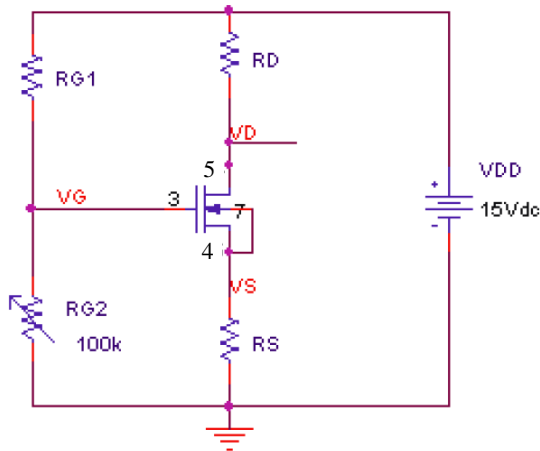
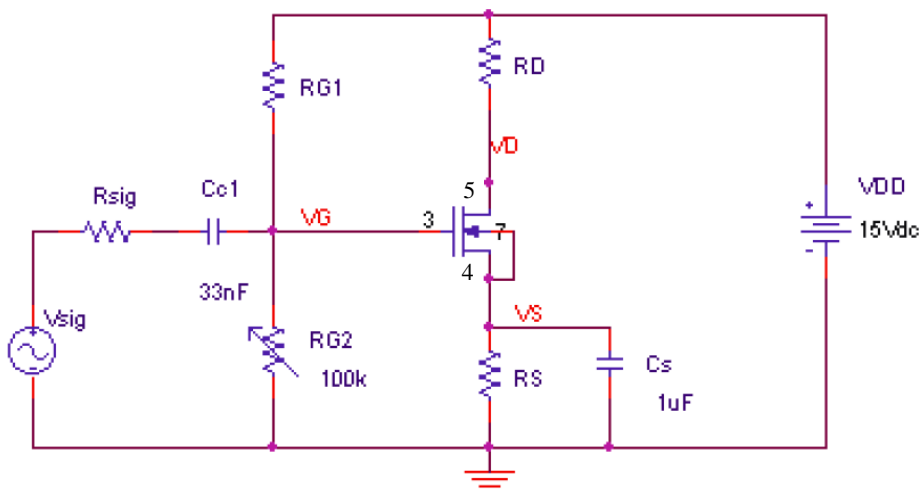

Figure 4. Biasing circuit for the common-source amplifier.
Figure 5. Common-source amplifier. R_{sig} is the internal resistance of the function generator and is negligible.
1. (10 pts) First build just the bias circuit(Fig. 4) for the amplifier you previously simulated. Use a potentiometer for R_{G2} . Use the transistor between the pins 3, 4 and 5. Notice that the bulk (pin 7) is connected to the source (pin 4) of the NMOS transistor. Do this with a wire connecting pins 4 and 7 together. This can be done since we are only using a single NMOS transistor in the array. The reason for shorting
3. (10 pts) Modify the circuit of Figure 4 by adding the capacitors C_{c1} , and C_S as shown in Figure 5. Connect a sinusoidal input signal of 0.2V amplitude (0.4Vpp) and 5kHz frequency. Measure the voltage swing at the drain using the oscilloscope. Display the V_D on one channel and the input voltage V_{sig} on the other channel. Measure the peak to peak values of the input and output signal. What is the open-circuit amplification (voltage gain) A_{vo} ? Include this graph in your notebook. How does it compare to the calculated one? It should be mentioned that the transistor characteristics can vary considerably from chip to chip. It is not unusual the measured values differ by as much as 10-20% from the specified ones.